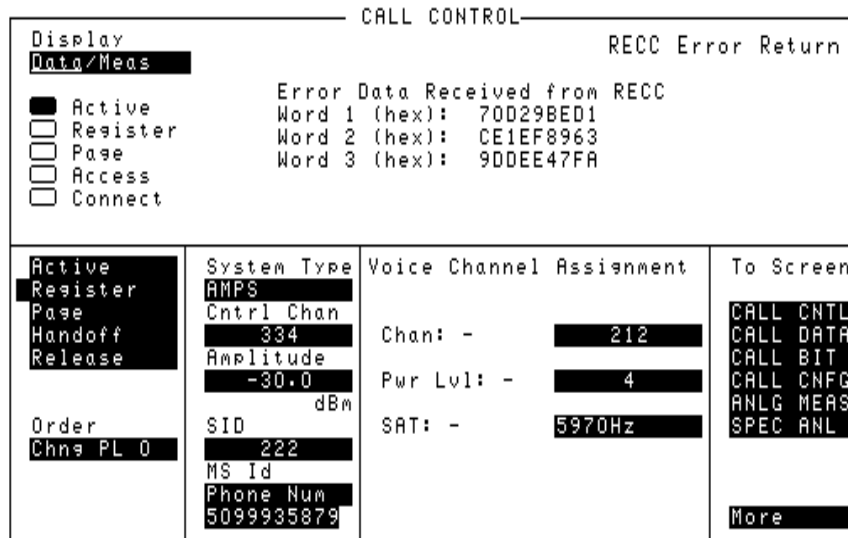

Figure 16 CALL CONTROL Screen with Decoding Error Message Display
- Select **Data** to display information received from the mobile station on the reverse control channel or reverse voice channel. If the data message(s) received from the mobile station can be correctly decoded, the decoded message contents are displayed. If the data messages cannot be correctly decoded, the raw data message bits are displayed in hexadecimal format. **Figure 16 on page 122** shows the layout of the CALL CONTROL screen when a decoding error has occurred.